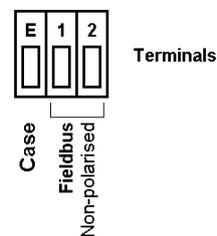

Fig 3 Installation and terminal connections
- Connect the panel wiring to the rear terminal block as shown in Fig 3. To simplify installation, the terminals are removable so that panel wiring can be completed before the instrument is installed.
Connection	2.3; Fig 3